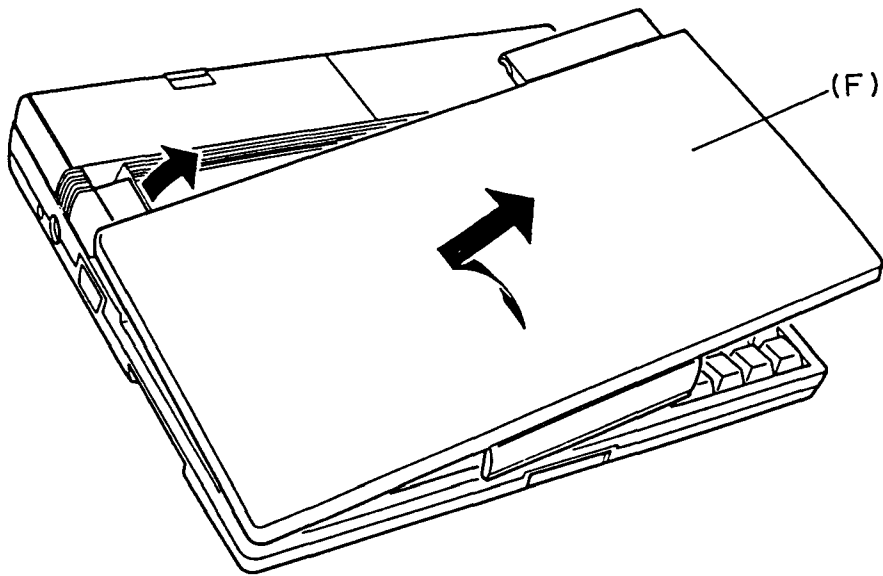

Figure 4-11 Removing the LCD cover assembly
4. Bend the LCD cover assembly (F) toward you, then remove it lifting the right edge. Refer to figure 4-11.